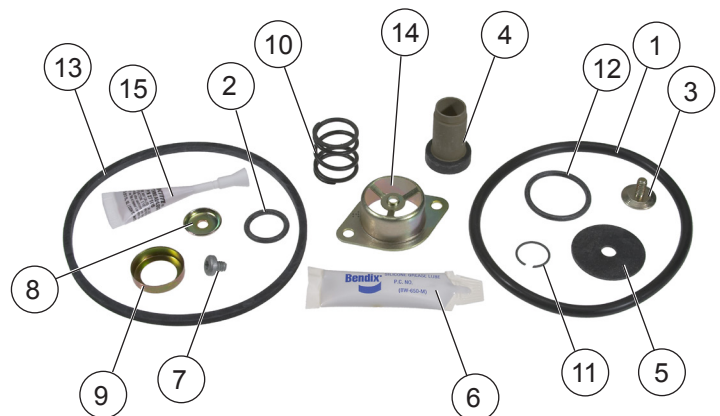

Figure 1 – Bendix® R-6™ Relay Valve Maintenance Kit Contents
1. Prior to assembly, lightly lubricate the relay piston guide post, o-rings, sealing rings, and cover bore with the lubricant (6) provided in this kit.
2. Install items (4), (9), (10), (11), (12), (13), and the valve retainer in the order shown in Figure 1, then lubricate the outside of the inlet/exhaust valve body. Insert this assembly in the valve body.
3. Install the exhaust cover (14) and secure it with 10-24 screws. Torque to approximately 20-30 in-lbs.
4. Securing with the #10 Torx® screw (7), install the exhaust diaphragm (5) and diaphragm washer (8) into the exhaust cover (14).
5. Install the cover sealing ring (1).
6. Install the relay piston o-ring (2) on the relay piston, then position the relay piston in the cover.